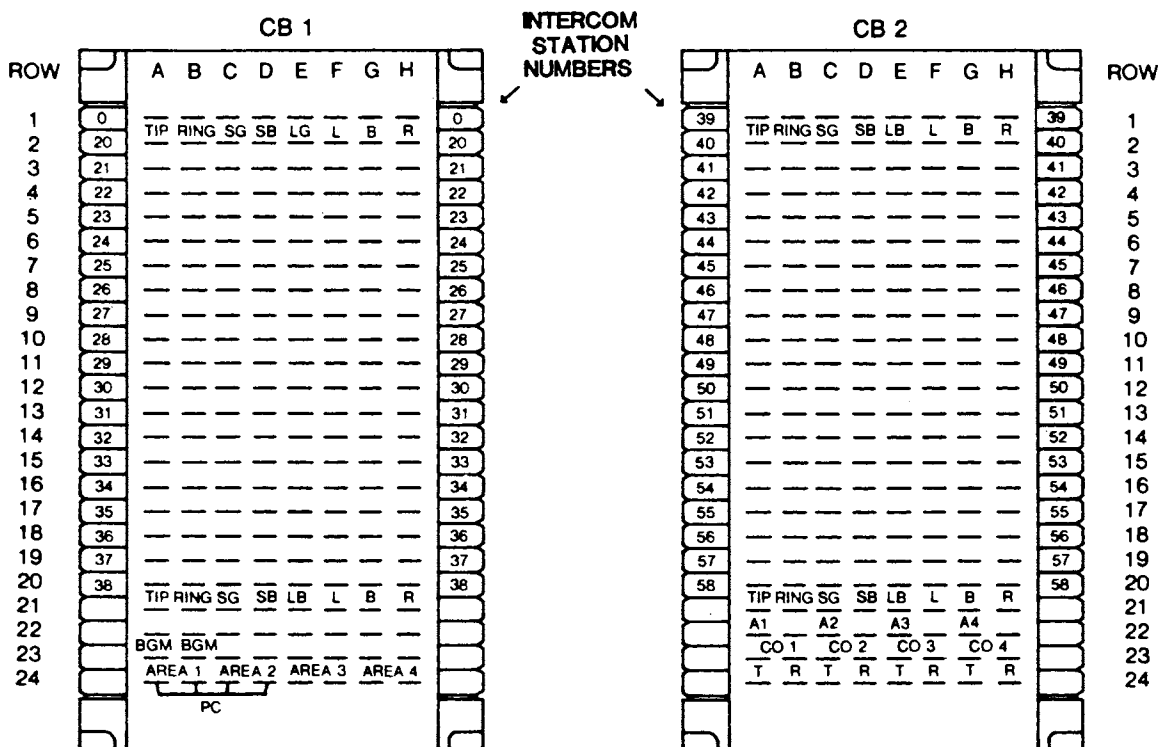

Figure 3—Station and Terminal Assignments of KL-30 Connecting Blocks.
3.04 Connect the speakers to connecting block terminals above labels AREA 1, AREA 2, AREA 3, and AREA 4. See Figure 3. Use speakers rated at 5 watts or more. Note that two wires are necessary; the return connects to B battery, not ground.
3.05 Connect wires from background music source to terminals above label BGM. See Figure 3.